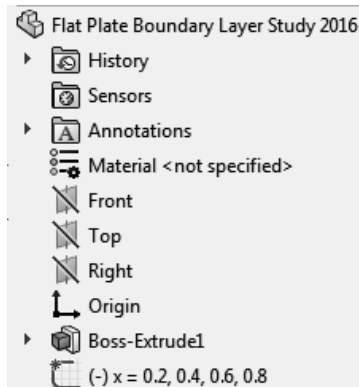

Figure 2.8 Renaming the sketch for boundary layer velocity profiles
8. Repeat step 7 three more times and add three more vertical lines to the sketch, the second line at  $X = 400$  mm with a length of 40 mm, the third line at  $X = 600$  mm with a length of 60 mm and the fourth line at  $X = 800$  mm with a length of 80 mm. These lines will be used to plot the boundary layer velocity profiles at different streamwise positions along the flat plate. Close the **Line Properties** dialog ☒ and the **Insert Line** dialog. Save the SOLIDWORKS part with the following name: **Flat Plate Boundary Layer Study 2016**. Rename the newly created sketch in the **FeatureManager design tree**; see figure 2.8. Click on the **Rebuild** symbol  in the SOLIDWORKS menu.